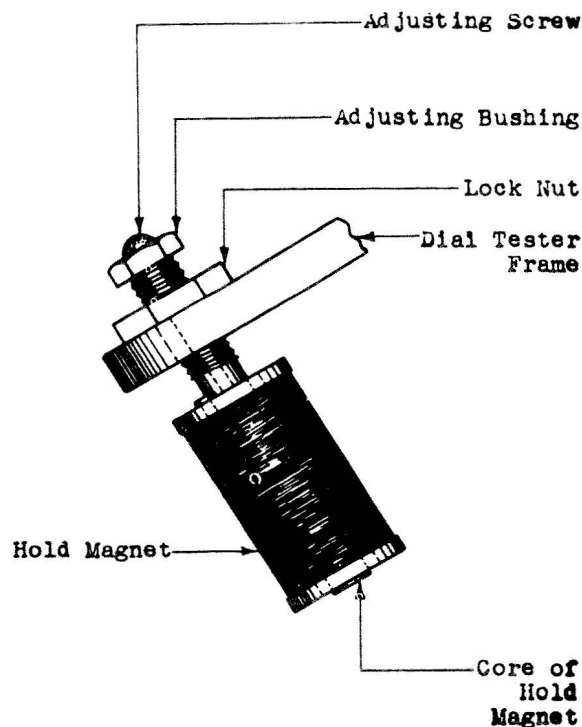

Fig. 29 - Designation of Parts of Hold Magnet
- (2) For dial testers with serial number 1 to 60 inclusive, use the KS-6854 screwdriver instead of the No. 368 wrench for making this adjustment.
- (3) If the pendulum swings too far to the left, shift the disc to the left and if it swings too far to the right, shift the disc to the right.
- (4) No adjustment of the relation between the contact arm and the pendulum should be made unless the hold magnet has become loosened or it is impossible to meet requirement 2.11 by relocating the pendulum balance weight.
- (5) Do not attempt to adjust without first allowing the reset arm to return to normal.
- (6) To adjust the hold magnet loosen the lock nut with the No. 243 wrench, hold the adjusting bushing with the No. 245 wrench and loosen the adjusting screw with the KS-6854 screwdriver.
- (7) Then turn the adjusting bushing in or out as required and retighten the adjusting screw. Then tighten the lock nut. See Fig. 29.